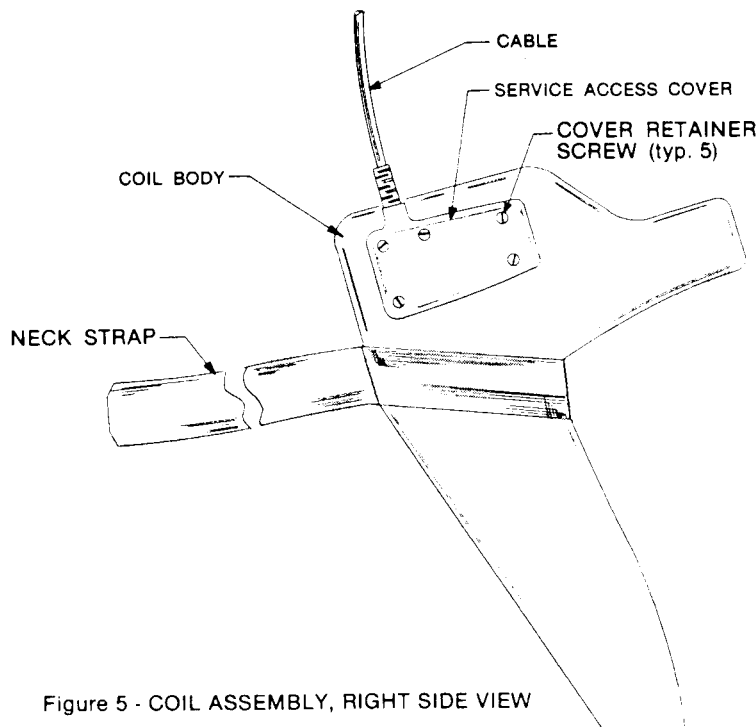

Figure 5 - COIL ASSEMBLY, RIGHT SIDE VIEW
- Remove the nylon screws from the service access cover (Fig. 5)
- Remove the service access cover (Fig. 5).